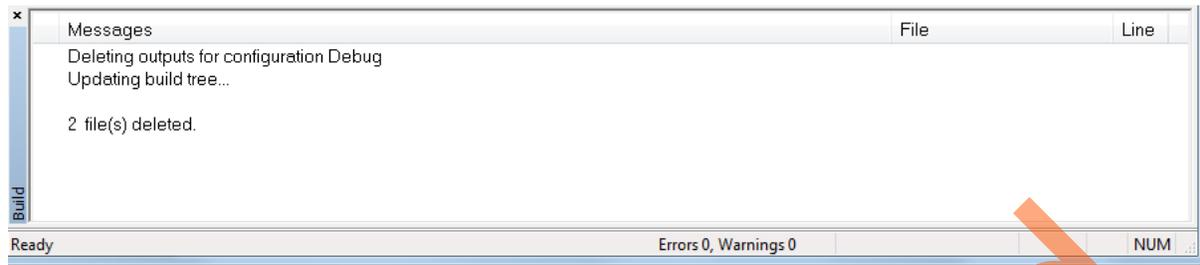

Figure 35 • IAR Workspace - Deleted Files
- After cleaning the project, the **Messages** log section shows that some files are deleted, as shown in Figure 35.